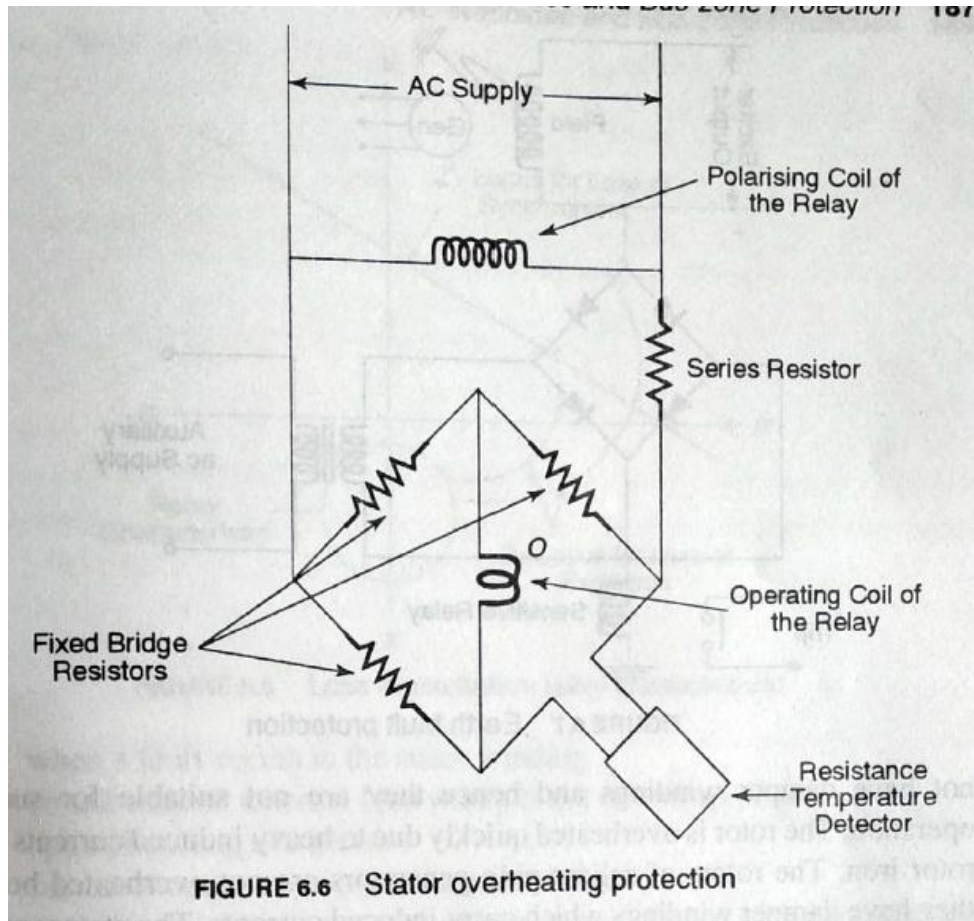

FIGURE 6.6 Stator overheating protection
**(c) Stator-overheating protection** Overheating of the stator may be caused by the failure of the cooling system, overloading or core faults like short-circuited laminations and failure of core bolt insulation. Modern generators employ two methods to detect overheating both being used in large generators (above 2 MW). In one method, the inlet and outlet temperatures of the cooling medium which may be hydrogen/water are compared for detecting overheating. In the other method, the temperature sensing elements are embedded in the stator slots to sense the temperature. Figure 6.6 shows a stator overheating relaying scheme. When the temperature exceeds a certain preset maximum temperature limit, the relay sounds an alarm. The scheme employs a temperature detector unit, relay and Wheatstone-bridge for the purpose. The temperature sensing elements may either be thermistors, thermocouples or resistance temperature indicators. They are embedded in the stator slots at different locations. These elements are connected to a multi-way selector switch which checks each one in turn for a period long enough to operate an alarm relay.